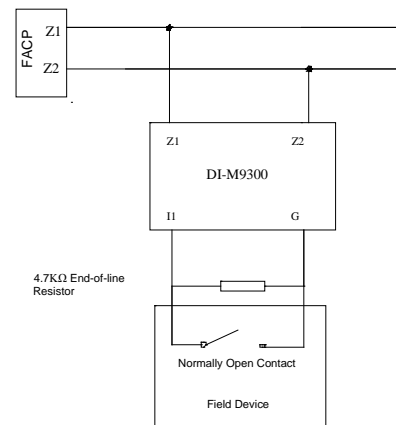

Fig. 6
- ✧ Connection of the module to field devices with normally-open dry contact is shown in Fig. 6.